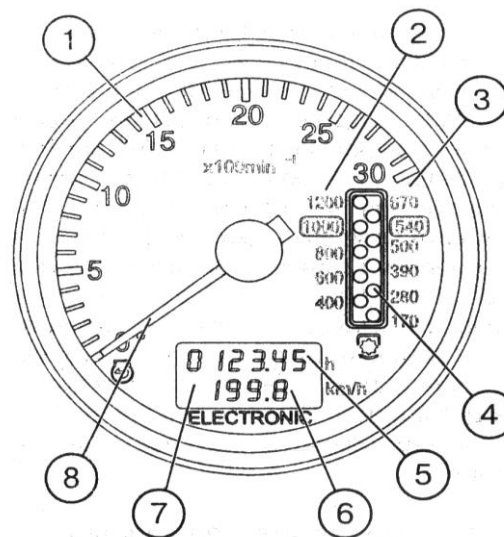

Fig. 1. Tachospeedometer (P1):
1.1. Tachospeedometer AP70.3813 (Fig. 1)